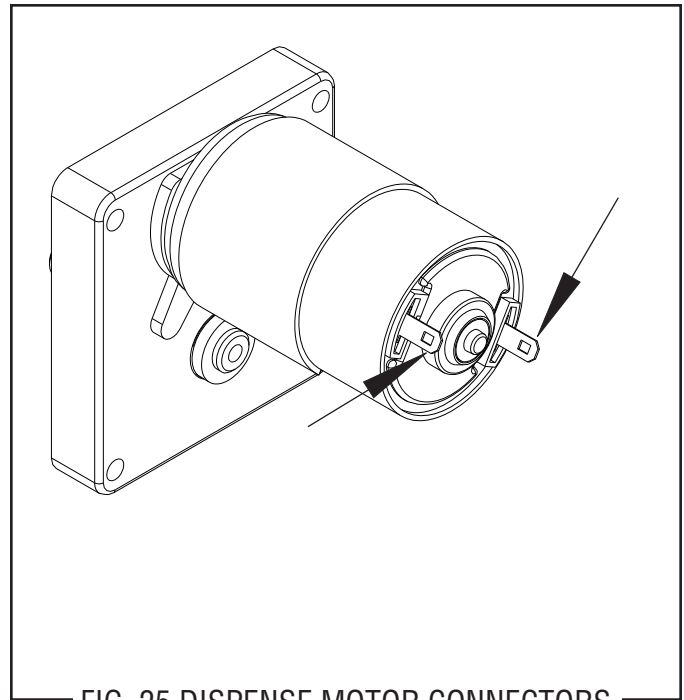

FIG. 25 DISPENSE MOTOR CONNECTORS
5. Reconnect the two wires to the motor as shown in Fig. 25.